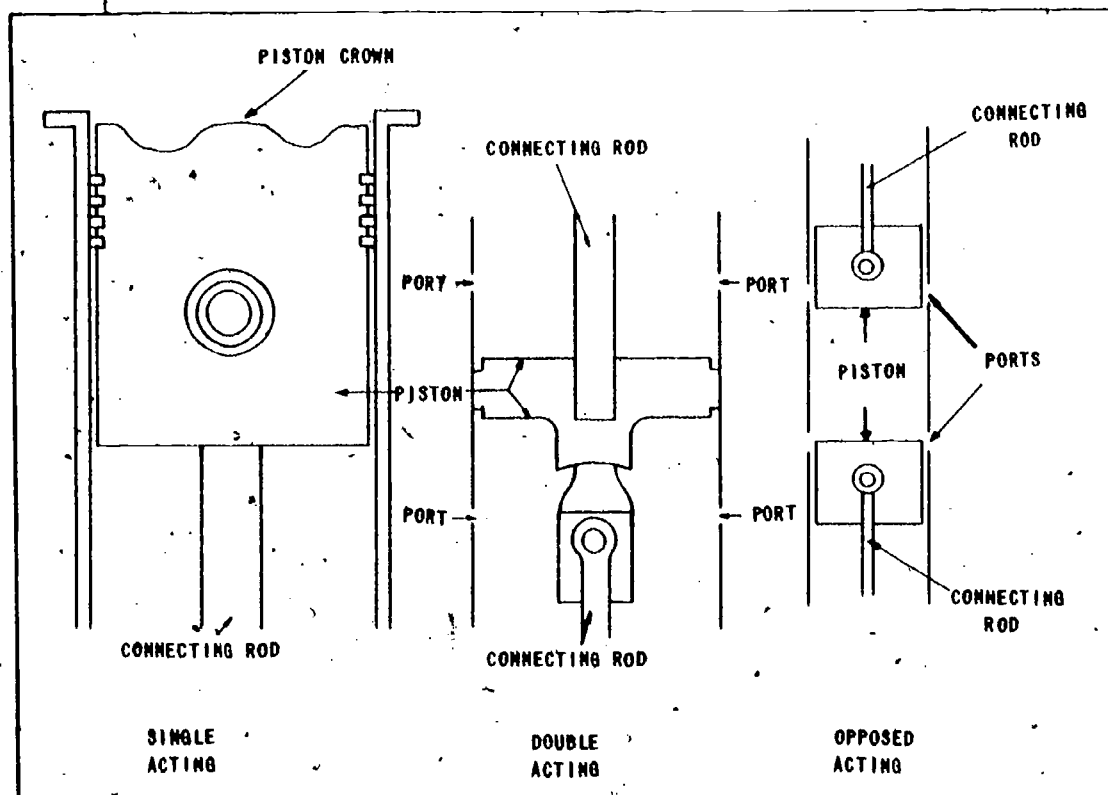

Fig 2-2. Piston actions.
- (1) **Operating cycle.** Internal-combustion engines operate on either a 2- or 4-stroke cycle. This means that a piston moves from one end of the cylinder to the other (top to bottom-bottom to top) two or four times for a cylinder to complete a cycle. When a piston has moved from one end of the cylinder to the other (up or down), it has completed one stroke, but only a portion of the cycle. A cycle is the chain of events that occur to get the air and fuel into the cylinder, compress it, burn it to produce the power, and then expel the exhaust. The chain of events is the same for all internal-combustion engines, but the number of strokes required to complete a cycle may be either two or four.
- (2) **Piston action** (fig 2-2). An engine can be classified as single-acting piston engine, double-acting piston engine, or opposed piston engine. A single-acting piston engine uses only one end of the piston (the crown) to receive the force of the expanding gases. A double-acting piston engine uses both ends of the piston to receive the forces. The opposed piston engine is constructed with two pistons in one cylinder. The engines in Marine Corps engineer equipment are single acting piston type.